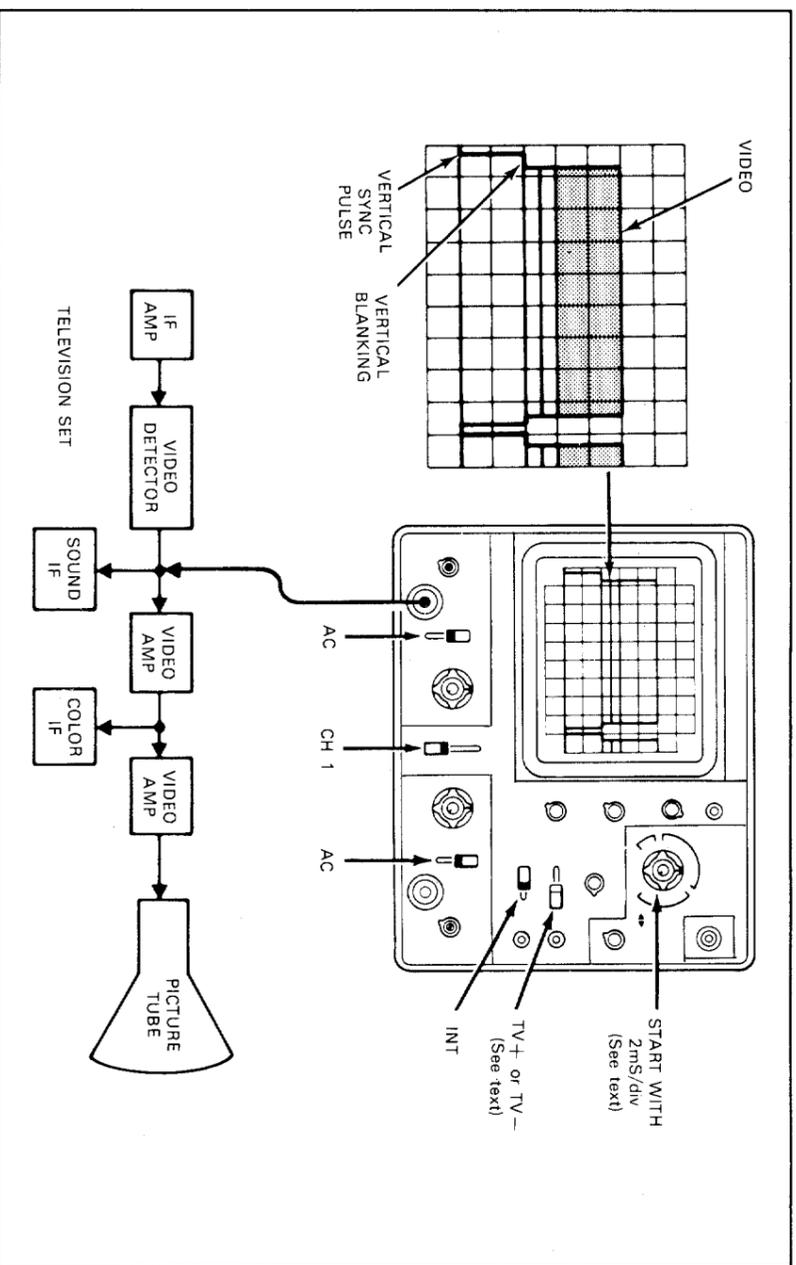

Fig. 13 Set-up for viewing fields 1 and 2 of VITS information
cept that the burst at 2.0MHz is low compared to other burst signals. This suggests the IF trap is detuned into the passband, chopping out frequencies about 2 MHz below the picture carrier frequency. Switch to another channel; if the amplifier requires realignment. If the picture quality is the same, then our reasoning is right, and if the picture quality of another channel is normal, the FM trap at the tuner input is misadjusted. Fig. 13 shows the method of viewing the VITS waveforms.
2. The method shown in Fig. 13 is used to obtain Field 2 vertical signal on CH 1.